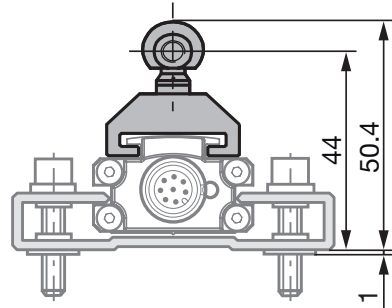
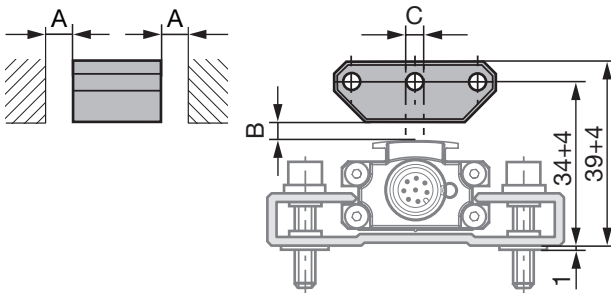

Fig. 4-1: Dimensions and distances with BTL5-F-2814-1S magnet
Fig. 4-3: Dimensions and distances with BTL5-P-3800-2 magnet
**i** The micropulse transducer in profile housing is suitable both for floating, i.e. non-contacting magnets (see Figures 4-3 to 4-7) and for captive magnets (see Figures 4-1 and 4-2).
- Ensure that the distance A between parts made of magnetizable material and the magnet is at least 10 mm (see Figures 4-3 to 4-7).
- Maintain the following values for distance B between the magnet and transducer and for center offset C (see Figures 4-3 to 4-7):
Tab. 4-1: Distance and offset for magnets (see Figures 4-3 to 4-7)